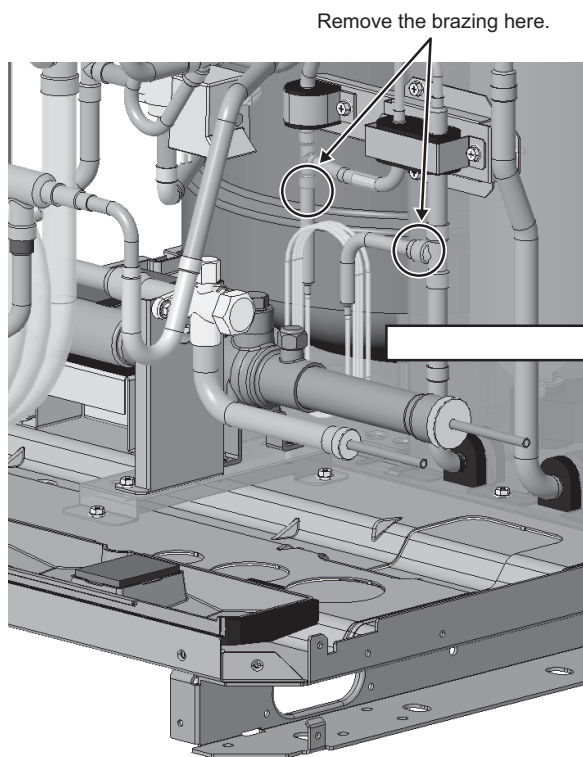

Fig. 1
- (1) Remove the brazing from the capillary assembly. (Two areas: Fig. 1)